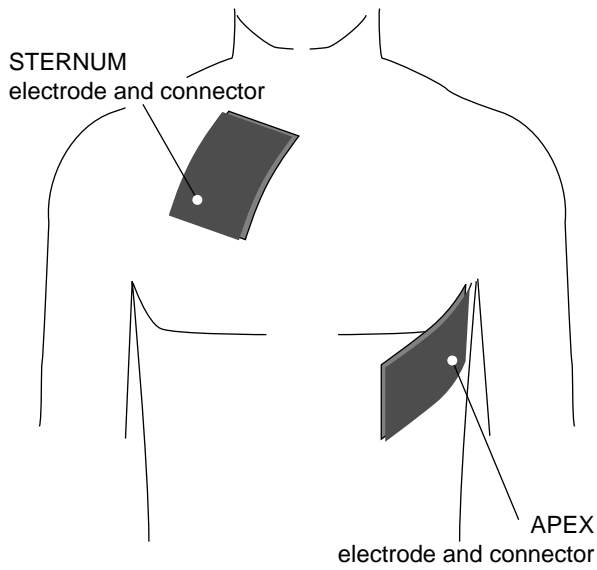

Figure 4-16. Defibrillation pad application points
- Apply the defibrillation pads as shown in Figure 4-16.